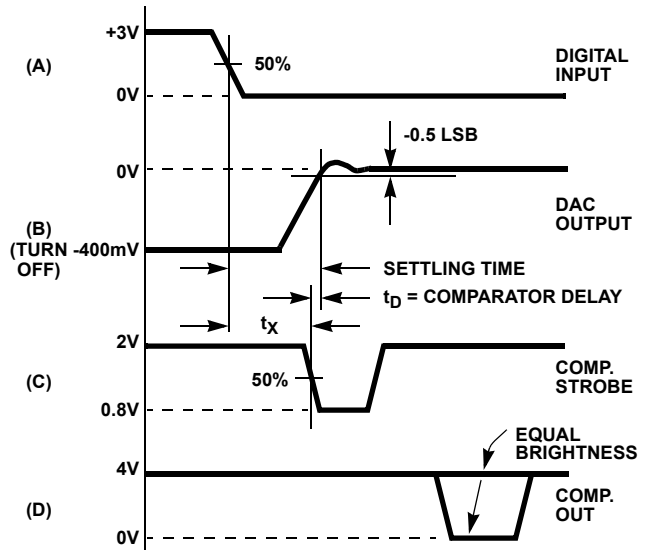

FIGURE 3B.
As shown in Figure 3B, settling time equals t_X plus the comparator delay (t_D = 15ns). To measure t_X:
- Adjust the V_{LSB} supply for 50% triggering at COMPARATOR OUT. This is indicated by traces of equal brightness on the oscilloscope display as shown in Figure 3B. Note DVM reading.
- Switch the LSB to Pulse (P).
- Measure t_X from scope as shown in Figure 3B. Settling time equals t_X + t_D, i.e., t_X + 15ns.